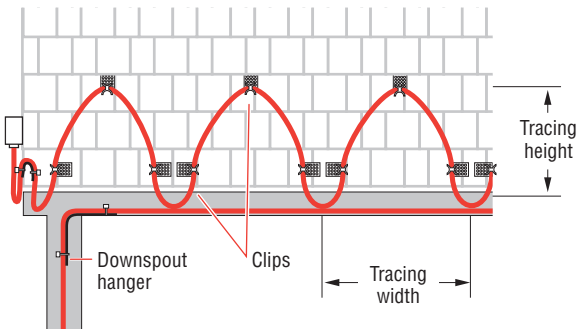
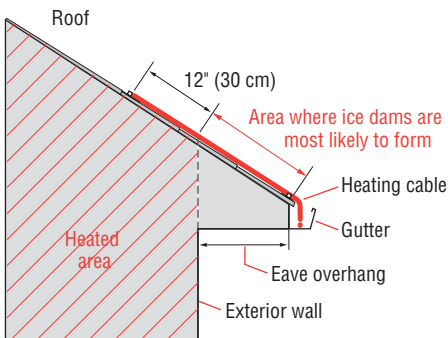

Fig. 5 Front view of roof with IceStop system
Fig. 6 Side view of roof with IceStop system
Figure 5 and Figure 6 below illustrate several important terms:
- Run heating cable up the roof until it is 12 inches (30 cm) past the exterior wall into the heated area (see Figure 6 on page 8).
- Run the heating cable up the seam until it is 12 inches (30 cm) past the exterior wall and into a heated area, Figure 6 on page 8.